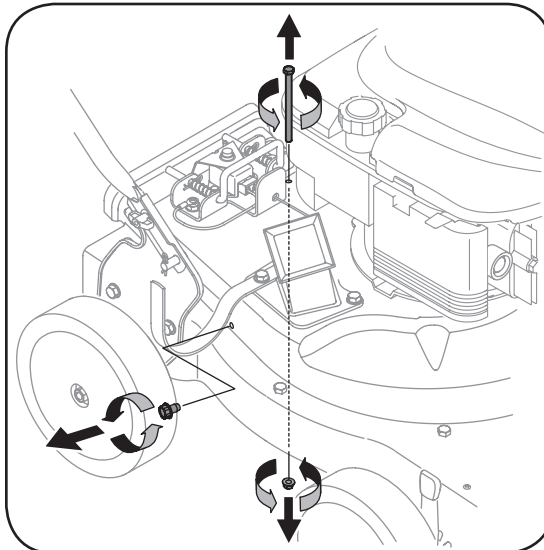

Figure 5-3
5. Remove self tapping screw on right side of unit that attaches to the flail screen. It may be necessary to remove the hose bracket hanger to get access to the screw. See Figure 5-3.
6. Remove hex screw on top of rear housing near mounting bracket and the flange lock nut that secures flail screen. See Figure 5-3.